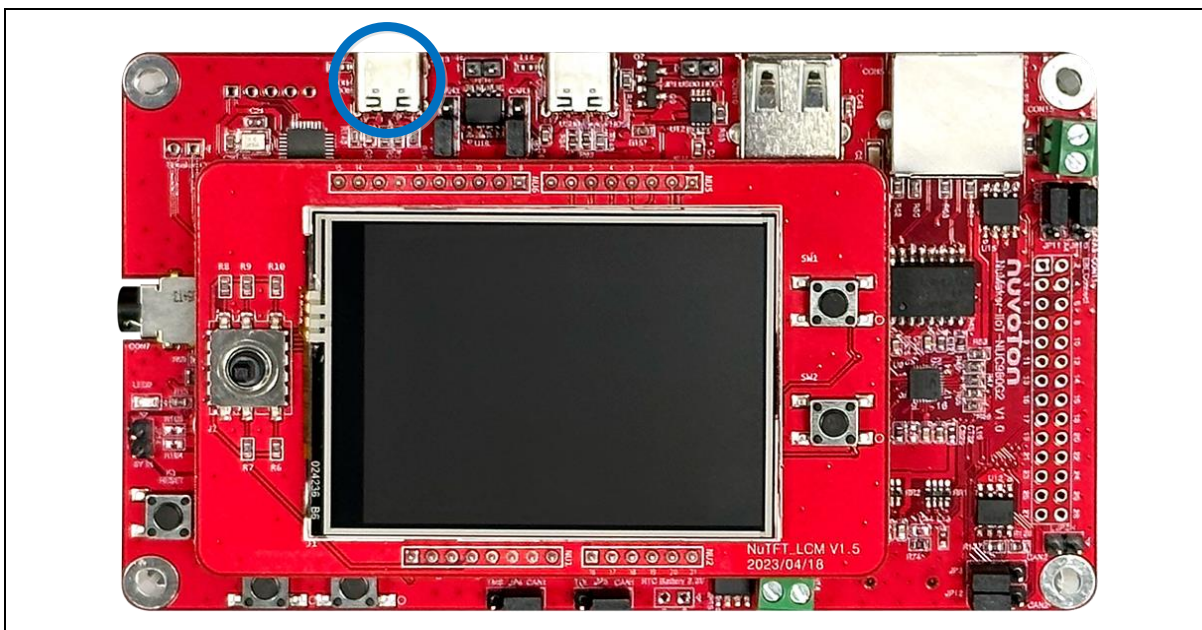

Figure 5-6 USB-Serial Debug Port
1. Connect USB-Serial connector shown in Figure 5-6 to the PC USB port through a USB type C cable.